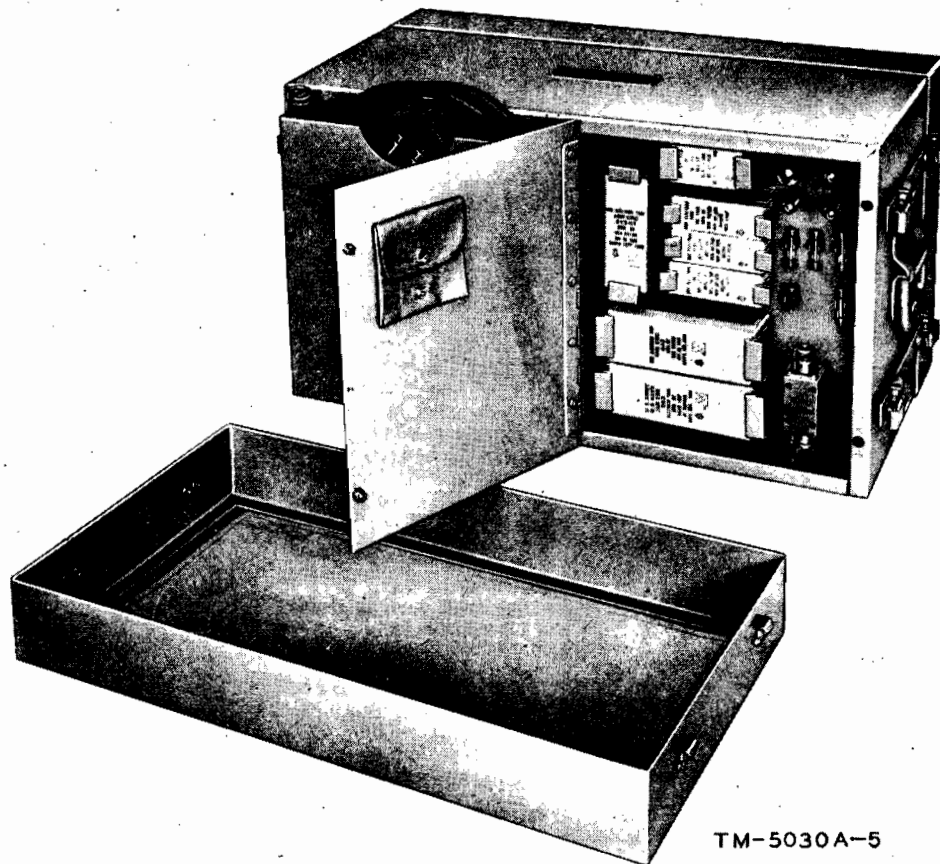

Figure 3. Signal Generator TS-497B/URR, rear view.
- (3) An impedance-matching pad, fixed attenuator Z1, which consists of a 50-ohm resistive network mounted in a cast-aluminum housing, terminated at the input end with Radio Frequency Plug UG-21B/U, and at the output end with Radio Frequency Receptacle UG-58/U. It provides an attenuation of 6 db (decibels).
- (4) An Allen wrench set (fig. 3).
The following running spares (fig. 3) are supplied with each signal generator: